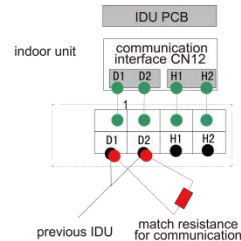

Fig 5.3.2
- (4) Secure the communication line to the electric box with the wire.
- (5) In order to ensure the reliability of communication between IDU and ODU and the communication among each IDU, add a matched resistance (supplied with system) on the wiring board of the last indoor unit in a series connection. The matched resistance should be connected in parallel between terminal screw D1 and D2, as shown in Fig. 5.3.2.